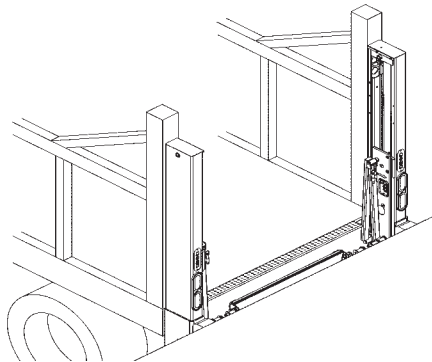

FIG. 29-2
3. Back up vehicle to dock (**FIG. 29-2**). Now loads can be moved between dock and vehicle.